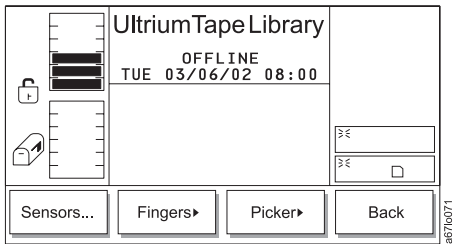

Figure 4-138. Diags Submenu
3. Press the button below the **Diags** softkey. The Diags Submenu displays (see Figure 4-138 on page 4-84).